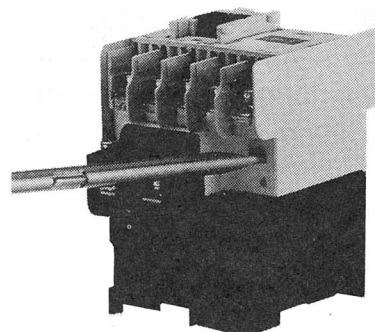

Fig. 2
For the S-N12(CX), N38(CX) and N48(CX), disengage the load side with a flat-tip screwdriver. (Fig. 2)